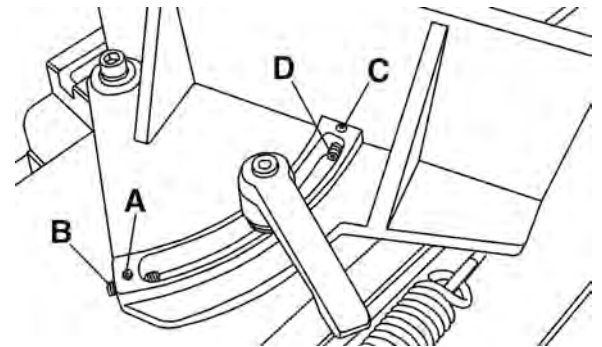

FIGURE 13
3. If an adjustment is necessary, loosen clamp handle and then loosen locking set screw (A) Fig.13 and turn adjusting set screw (B) until the vise jaw is at 45 degrees to the blade. Note: The end of set screw (B) should contact the stud of clamp handle when vise jaw is 45 degrees to the blade. Then tighten set screw (A).
6. If an adjustment is necessary, loosen clamp handle and then loosen locking set screw (C) Fig.13 and turn adjusting set screw (D) until the vise jaw is 90 degrees to the blade. Note: Turn set screw (D) from the opposite end, through the face of the vise jaw. The end of set screw (D) should contact stud of clamp handle when vise jaw is 90 degrees to the blade. Then tighten set screw (C).